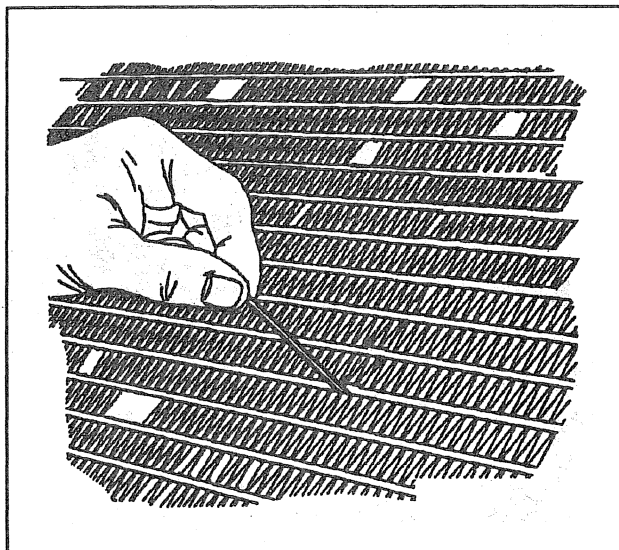

Figure 21—Applying the Hot Melt Adhesive to the Repair Area
8. Withdraw the torch and rub the adhesive stick on the repair area (figure 21). The adhesive will flow at a temperature of approximately 260°C (500°F). If the stick doesn't melt, remove it and re-apply the heat. Do not heat the stick with a flame. High heat will burn and char the adhesive.